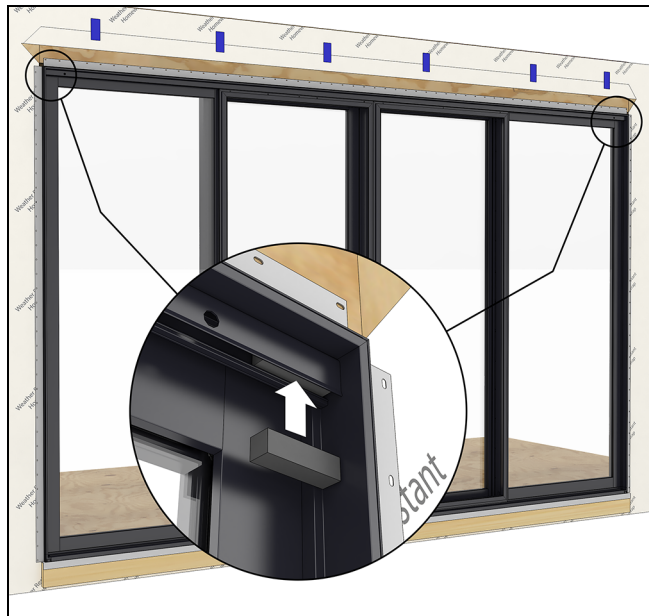

Figure 135
2. On OX or XO configurations, insert foam bumpers at the end of the screen track as shown. See Figure 135.
3. On OXXO configurations, insert foam bumpers at each end of the screen track as shown. See Figure 135.